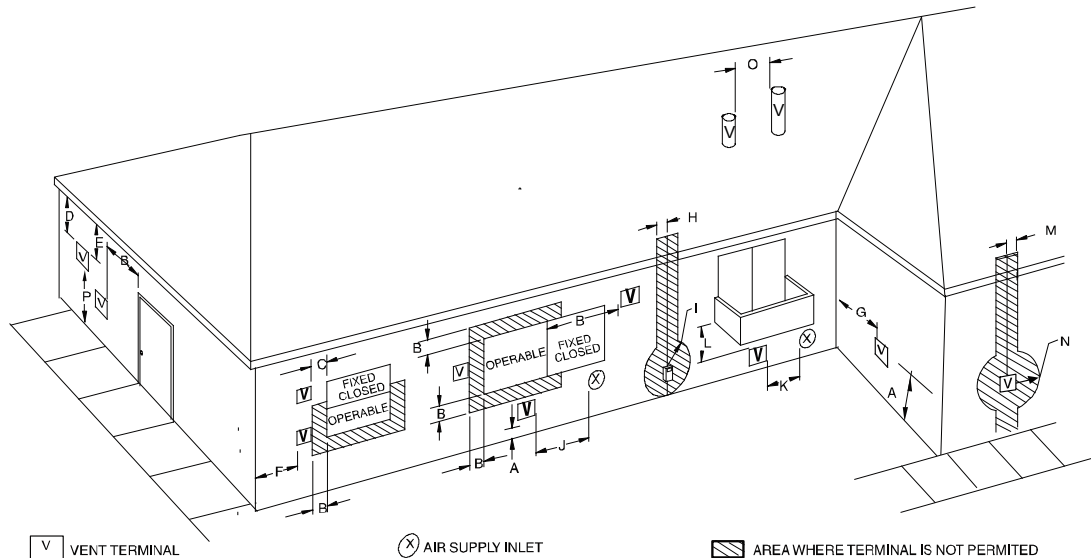
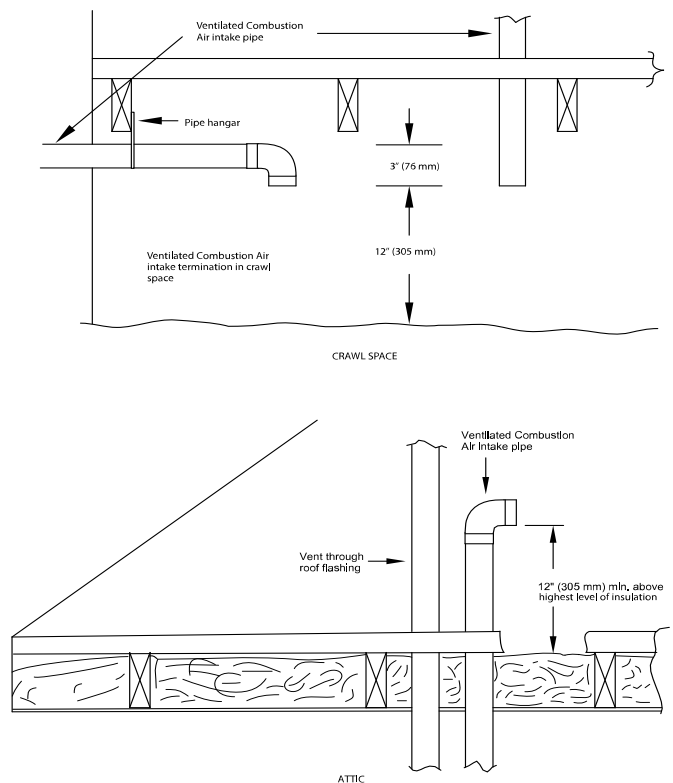

Fig. 45 – Ventilated Combustion Air and Non-Direct Vent Termination Clearance
Fig. 49 – Vent Terminations for Ventilated Combustion Air
In a ventilated combustion air option, the vent terminates and discharges the flue products directly to the outdoors similar to a direct vent system. See Fig. 45 for references to clearances required by National code authorities.
In a non direct-vent (1-pipe) system, all air for combustion is taken from the area adjacent to furnace, and all flue products are discharged to outdoor atmosphere. Air for combustion must be supplied as described in the Air For Combustion and Ventilation Section. Do not use an abandoned chimney to supply outside air to the furnace. See Fig. 45 for references to vent clearances required by National code authorities.
For vent termination clearance, references to National codes are shown in Fig. 44 for Direct Vent/2-Pipe system and Fig. 45 for Ventilated Combustion Air/Non-direct Vent/1-Pipe system. For exterior termination arrangements, refer to Fig. 41 for Direct Vent/2-Pipe system and Fig. 42 for Ventilated Combustion Air/Non-Direct/1-Pipe system. Contact Local code authorities for other requirements to and/or exemptions from the National codes shown in the figures.
1. Comply with all clearance requirements stated in Fig. 44 or Fig. 45 per application.
The vent pipe for a Ventilated Combustion Air System must terminate outdoors. See Fig. 45 for references to vent clearances required by National code authorities. Allowable vent terminations are shown in Fig. 42. The combustion air pipe terminates in a well-ventilated attic or crawl space. Follow the clearances as shown in Fig. 49.
The vent pipe for a Non Direct Vent (1-pipe) system must terminate outdoors. See Fig. 45 for references to vent clearances required by National Code authorities. Allowable vent terminations are shown in Fig. 42.